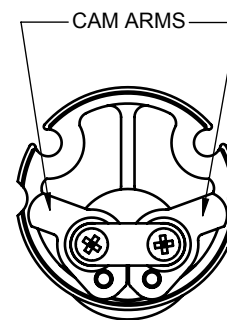

FIG. 2
1. Rotate the actuating hub so that the cam arms as shown in Fig. 2.